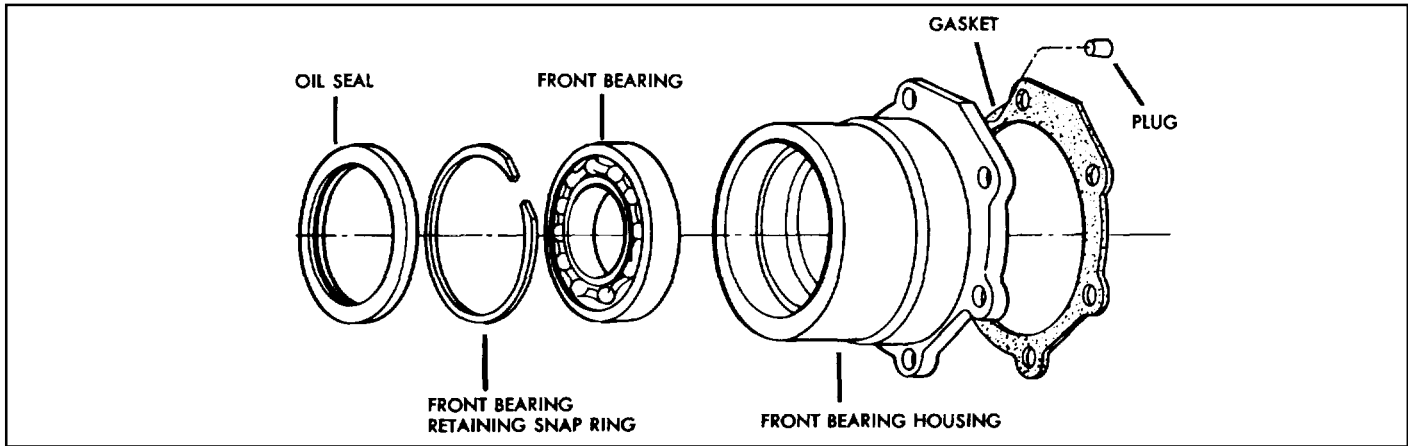

Fig. 7
1.10 Removal and Disassembly of the Front Bearing Housing Assembly (Fig. 7):